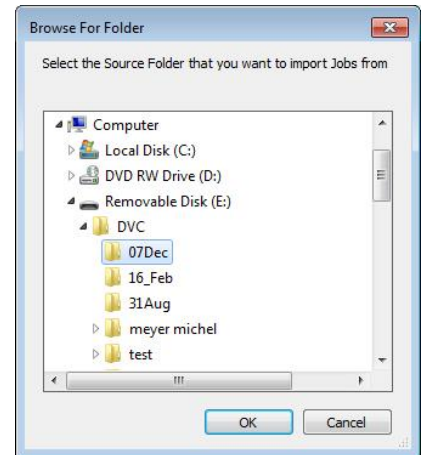

Figure 3.15 Browse for Folder screen
3. The **Browse for Folder** screen (Figure 3.15) will appear. Navigate to the **DVC** folder contained into your removable storage device and select the folder where your survey's data are located.